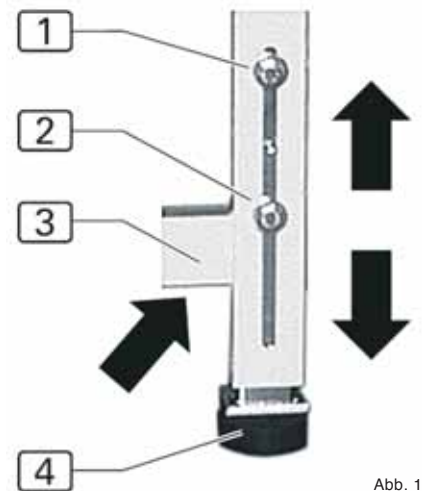

Abb. 1
1. **fig. 1:** Raise the machine with lifting apparatus by placing this at the lifting point **3** (arrow markings) under the cross beam. If the optional transport rollers are attached, release the brake on the rollers before raising.